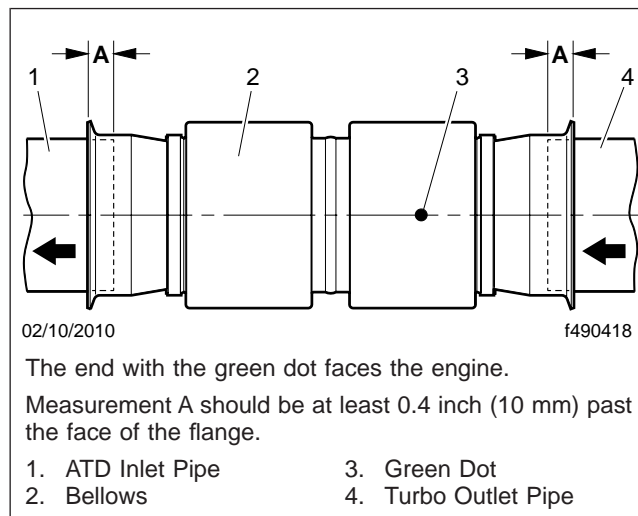

Fig. 5, EPA10 Exhaust Bellows
9. Slide the new bellows onto the ATD inlet pipe as far as it will go. See Fig. 5.
15. Using the yellow marks, center the bellows between the exhaust pipes. Verify that the pipe is inserted at least 7/16 inch (10 mm) past the face of the flange. See Fig. 5.